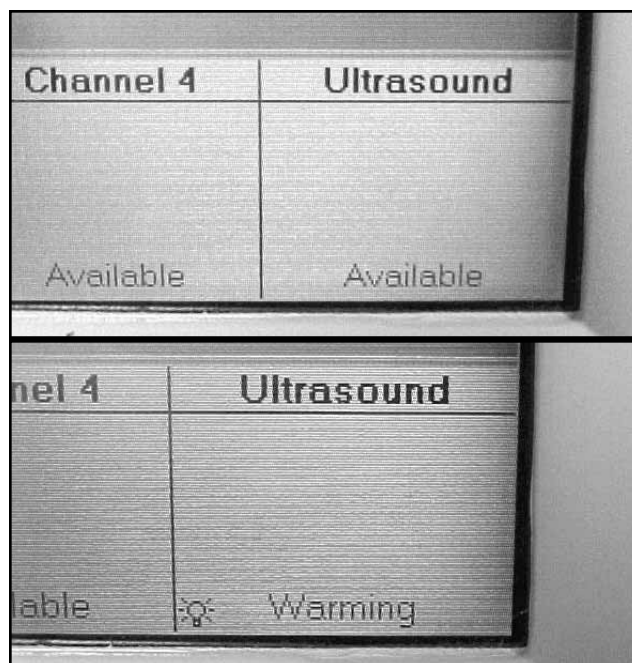

FIGURE 5.23
4. Look at the "Ultrasound" channel icon. It should read "Available" or "Warming", with a Light Bulb Icon on the L.H. side of the "Ultrasound" channel icon, within 10 seconds of connecting the applicator. See Figure 5.23.